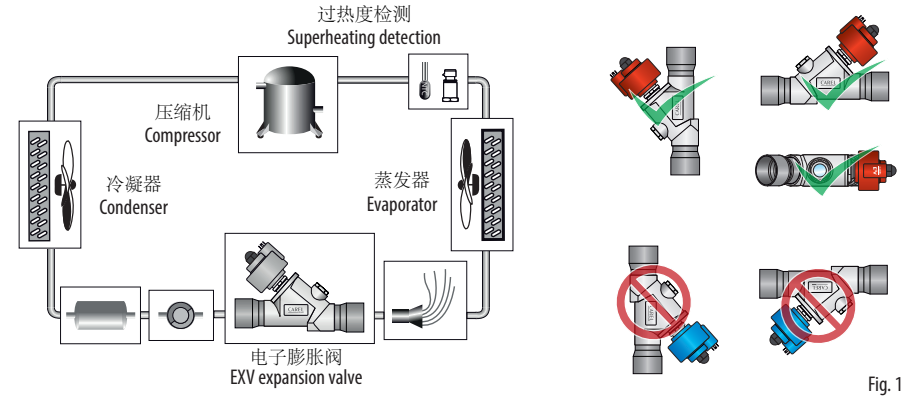

Fig. 1
- 除了不能上下颠倒 即电机定子朝下安装以外，阀可以朝任何方向，如图1所示。如果在膨胀阀前面使用截止阀，则必须设定好回路，从而防止在阀附近产生流体锤。截止阀和膨胀阀绝不能同时关闭，以避免回路中压力过大而产生的风险。
The E⁵V, E⁶V, E⁷V valve is double-acting. Always install a mechanical filter before the refrigerant inlet in order to safeguard the reliability of the valve. The valve can be oriented in any direction with the exception that the stator must not be pointed downwards (valve upside down) as shown in Fig. 1. If using shutoff valves before the expansion valve, the circuit must be set up so that no fluid hammer is created near the valve. The shutoff valve and expansion valve must never be closed at the same time, to avoid dangerous excess pressure in the circuit. The recommended position for the E⁵V, E⁶V, E⁷V is the same as for a traditional thermostatic valve, that is, upstream of the evaporator and any distributor. The temperature and pressure sensors (not supplied with the E⁵V, E⁶V, E⁷V) must be positioned immediately downstream of the evaporator, making sure that: